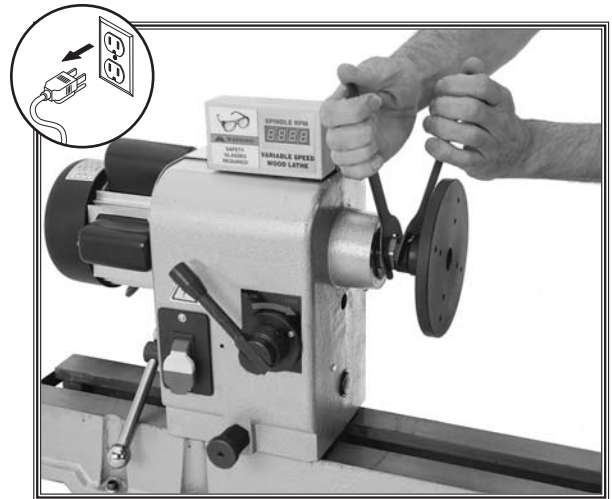

Figure 21. Tightening faceplate onto headstock spindle.
4. Using the two included 34mm flat wrenches, tighten the faceplate, as shown in Figure 21.